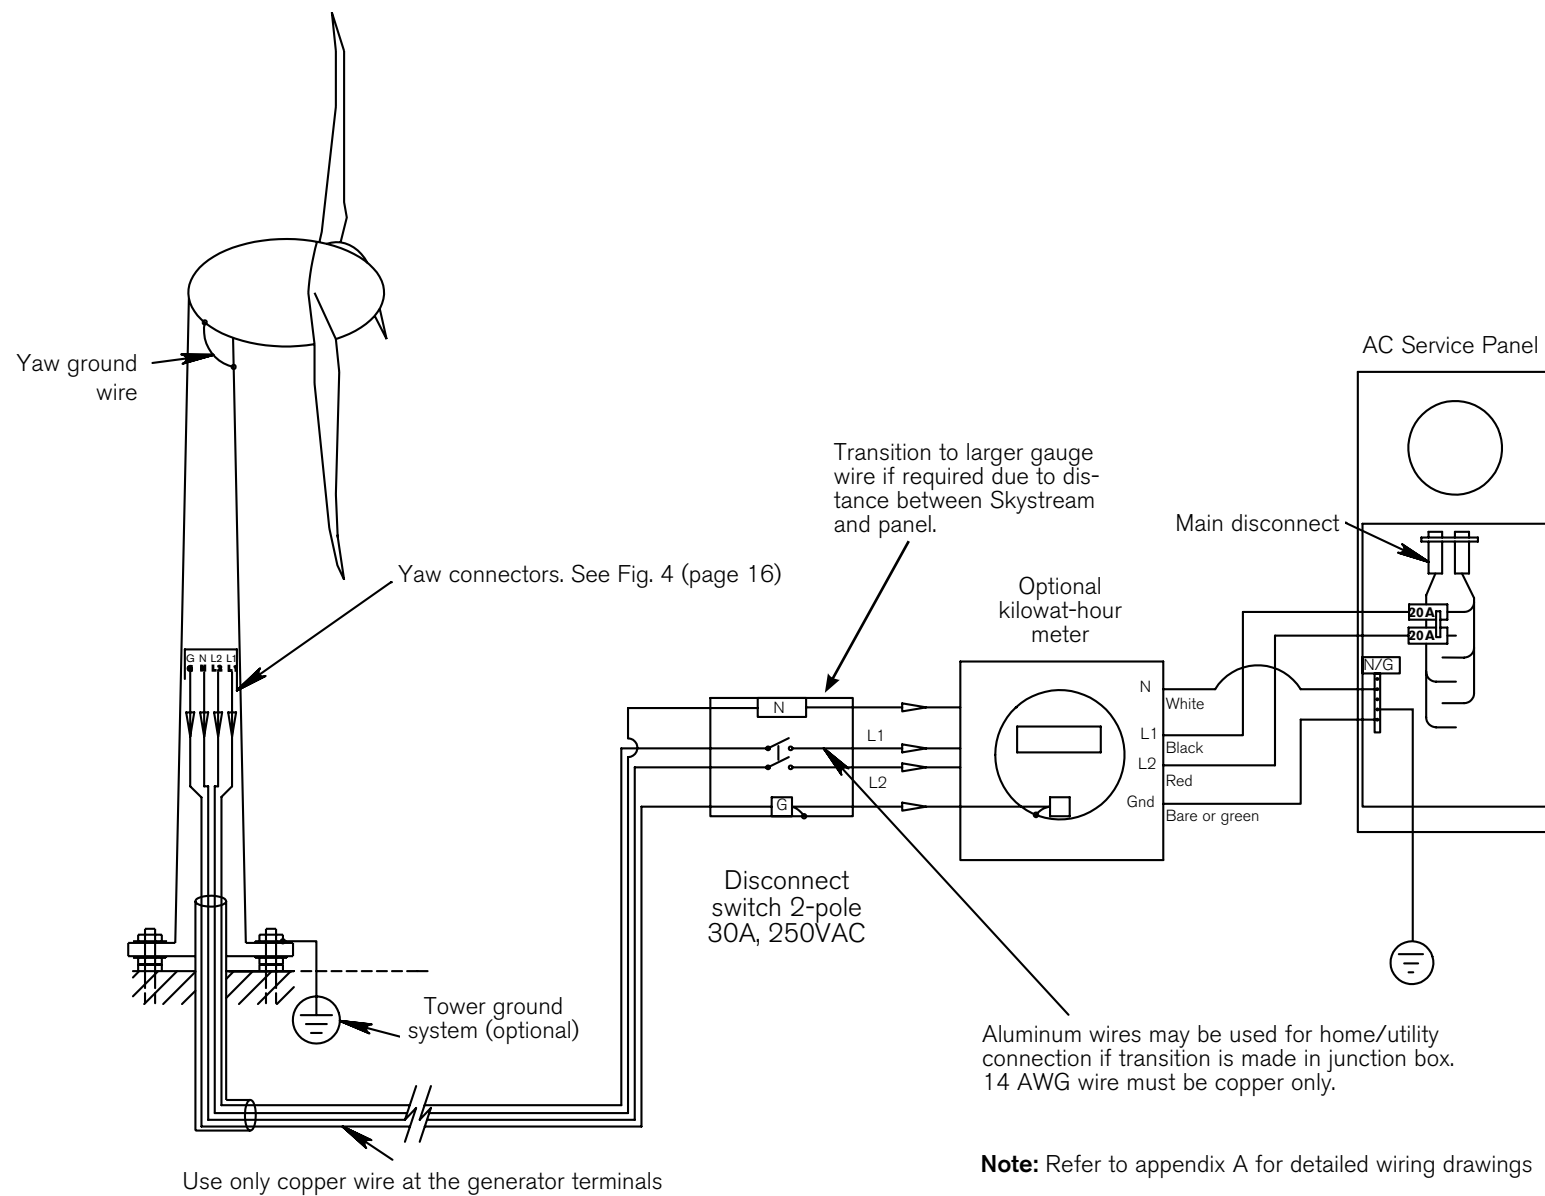

Fig. 3 Wiring diagram, 240V, 60Hz, split phase.
Refer to **Fig. 3** on following page for an overview of a typical residential Skystream wiring installation
The maximum wire size that can be connected to Skystream yaw is 8 AWG (10mm2) therefore if a larger wire size is required because of the installed distance, Southwest Windpower recommends installing a Power Disconnect Switch box close to the base of the tower and transitioning to the appropriate size wire. Refer to **Figs. 3, 4** and **Appendix A** for detailed information.
**Note:** Only 20 Amp circuit breakers may be used to connect Skystream to AC service panel. Refer to **Fig. 3**, wiring diagram.